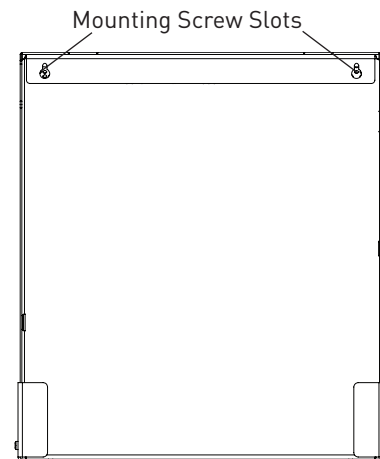

Figure 2
2. When mounting the Conserv 75E System on a wall, two (2) screws are required to mount the unit. The two (2) screws will be 14" (35.6 cm) apart and level. Screw the two (2) screws into the wall. Leave a gap between the screw head and the wall of 1/8". The backside of the unit has two (2) slots that will fit over the screw heads and slide down to lock (Figure 2).